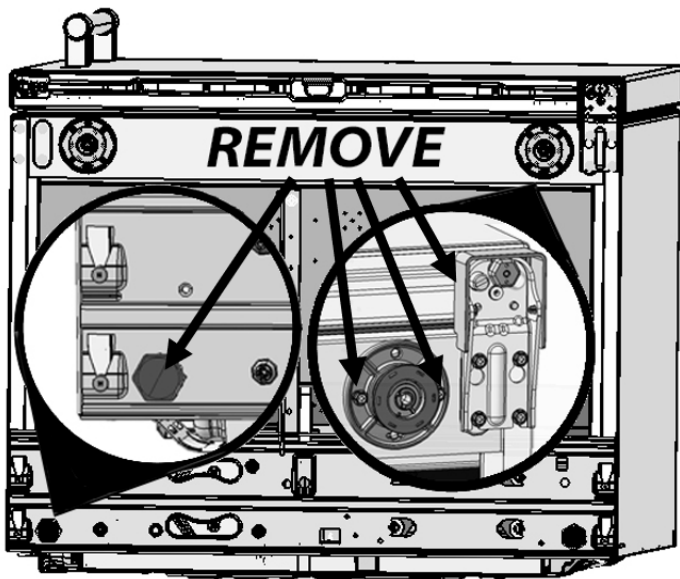

Figure 1
- b. Remove **both** rear leg levelers by unscrewing counterclockwise (Figure 1, left detail).
- c. Remove **both** front leg levelers by unscrewing the outer peg and two bolts on each front leveler with a 5/16" nut driver. Remove the hinge cover if installed (Figure 1, right detail).